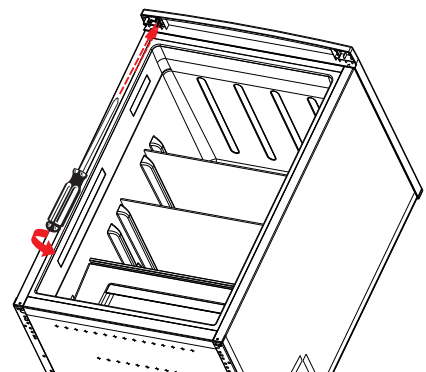

Fig. 13
- ▶ Screw the upper hinge to the left-hand side of the appliance using the two retaining screws (Fig. 13).